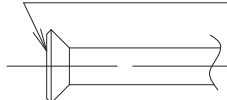

Fig. 11
- When making a flare connection, coat the flared inner surface only with ether oil or ester oil. (Refer to Fig. 11)